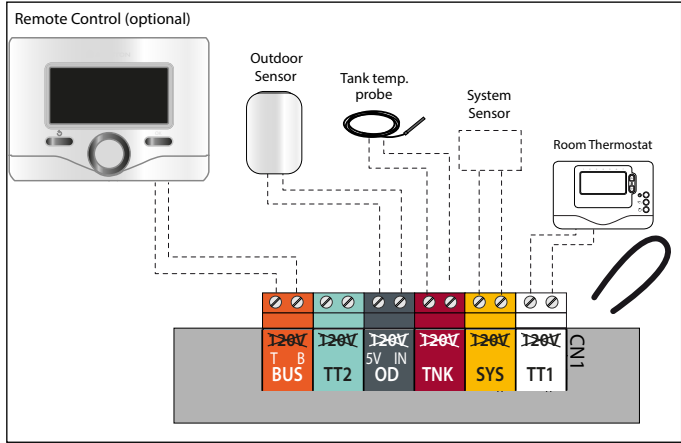

Figure 50 - Low Voltage Wiring Connections
3. Connect the room thermostat wires to the terminals indicated in Table 19 and Figure 50.